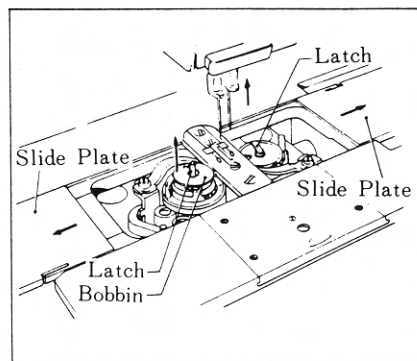

Figure 3
3. Removing Bobbins (Figure 3)
Raise the needles to their highest position and open the slide plates by moving them to the right and left as shown in Figure 3. Pull the rotary hook latches upward and remove the bobbin, also shown in Figure 3.